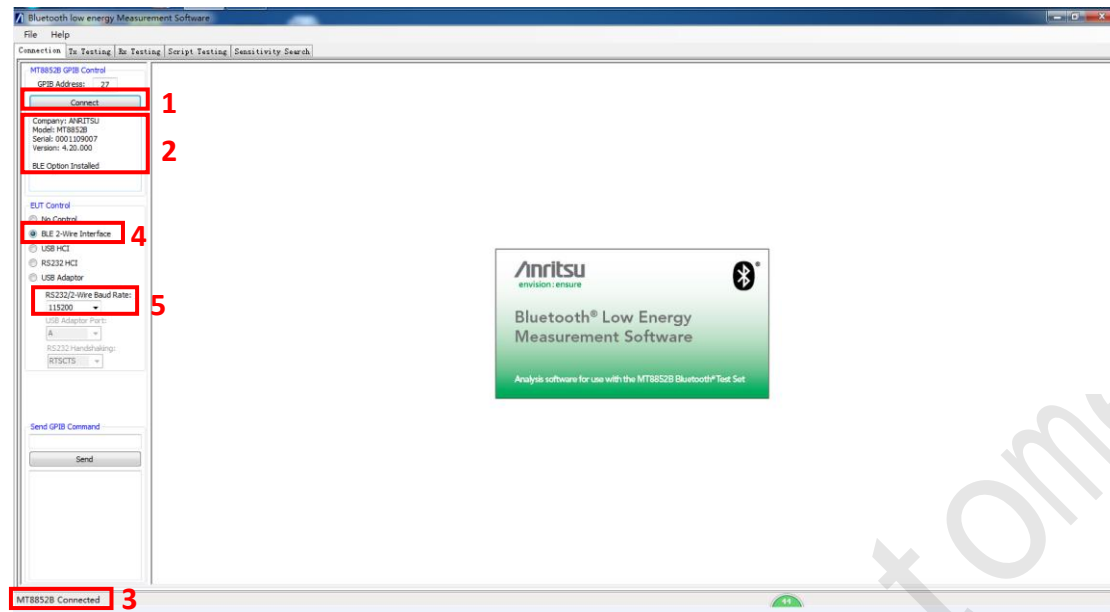

Figure 10 “Connection” window of BLE Measurement Software
Click the “Connect” button (as shown in mark 1 of Figure 10) in the software interface. Indication information will be available in the interface to indicate successful connection between PC software and MT8852B, as shown in mark 2 and mark 3 of Figure 10.
- 1) Tick “BLE 2-Wire Interface” for “EUT Control” option, as shown in mark 4 of Figure 10.
- 2) Select “115200” for “RS232/2-Wire Baud Rate” option according to EUT setting, as shown in mark 5 of Figure 10.